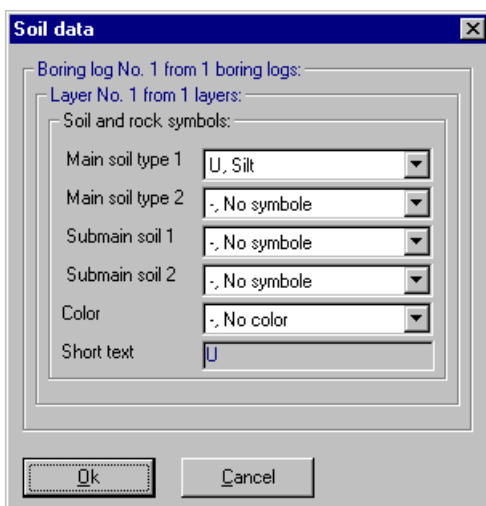

Figure 3-15 "Soil and rock symbols" dialog box
- Double-click on the soil symbol of the soil layer. The corresponding dialog box to modify the soil symbols of that layer appears (Figure 3-15)
- Select "U, Silt" as the soil type in the "Main soil type 1" combo box in the dialog group box "Soil and rock symbols" in Figure 3-15. The color of the silt and a short text "U" according to the German specification code DIN 4023 will be automatically created